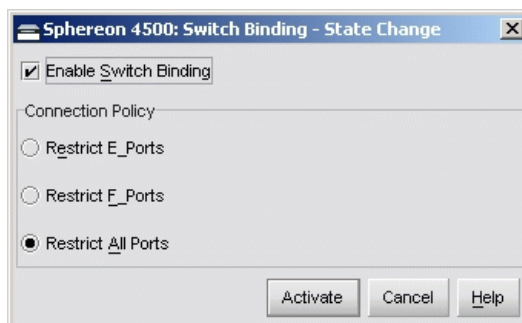
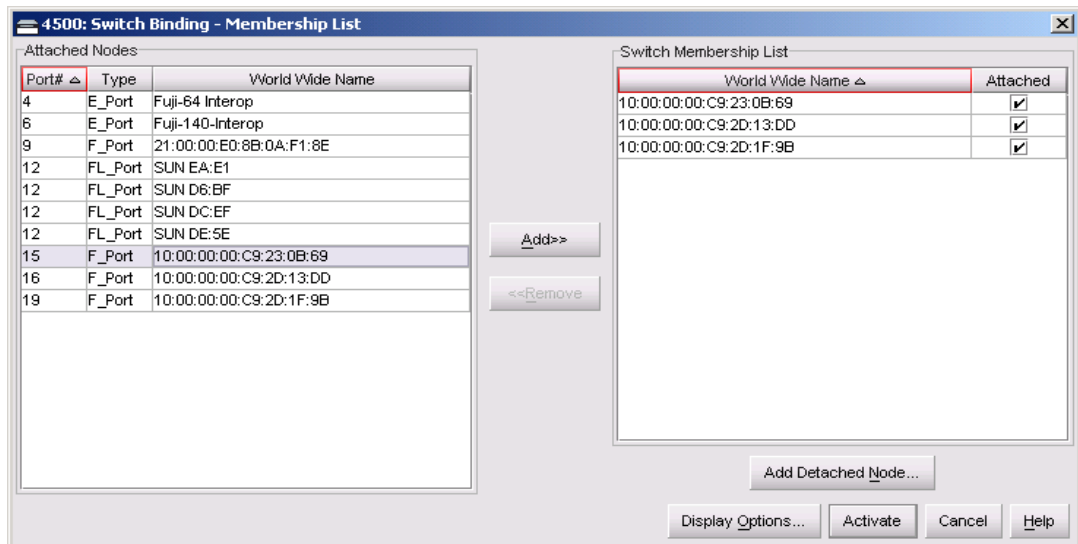

Figure 2-89 Switch Binding - State Change Dialog Box
Figure 2-90 Switch Binding - Membership List Dialog Box
If the switch is online, binding populates a membership list at the *Switch Binding - Membership List* dialog box displays (Figure 2-90 on page 2-99) with WWNs of devices connected to the switch. The list is modified by the connection policy set in the *Switch Binding - Change State* dialog box displays (Figure 2-89 on page 2-98). When the switch binding feature is first installed but not enabled, the associated membership list is empty. The list is populated with device WWNs as follows:
2. At the *Hardware View*, select *Switch Binding*, then *Change State* from the *Configure* menu. The *Switch Binding - State Change* dialog box displays (Figure 2-89).
2. At the *Hardware View*, select *Switch Binding*, then *Edit Membership List* from the *Configure* menu. The *Switch Binding - Membership List* dialog box displays (Figure 2-90). WWNs of devices that are allowed to connect to switch ports appear in the *Switch Membership List* panel.